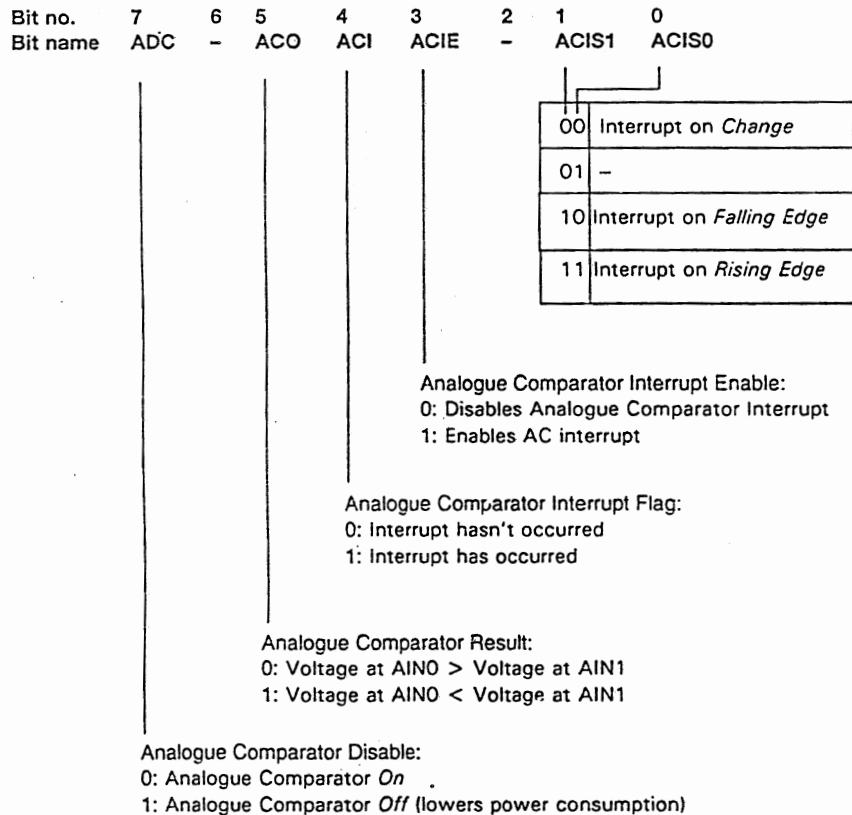

Figure 4.3
Another useful feature on most of the AVRs is an analogue comparator (AC) which compares the voltages on two pins (called `AIN0` and `AIN1` = PB0 and PB1 on the 1200) and changes the state of a bit depending on which voltage is greater. This is all controlled by the `ACSR` I/O register, whose bit assignments are shown in Figure 4.3.